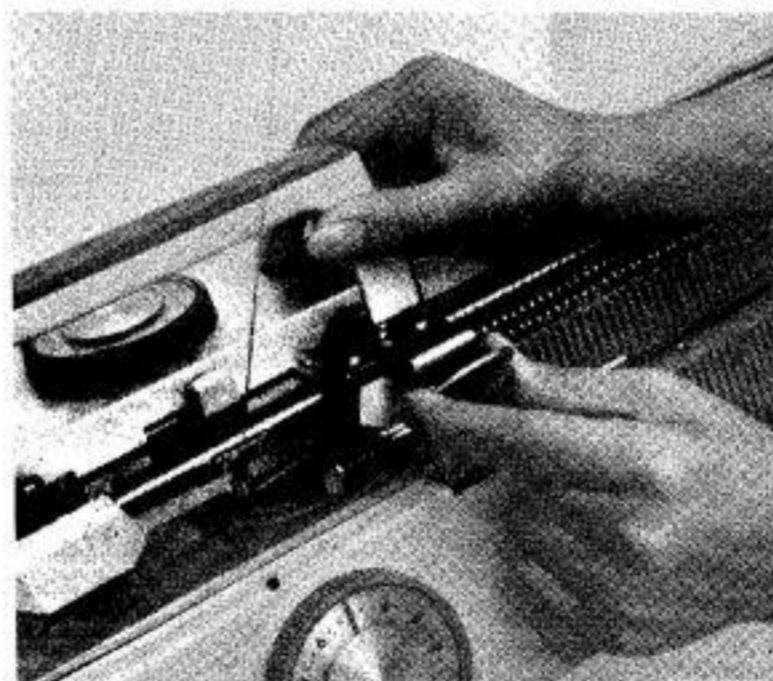
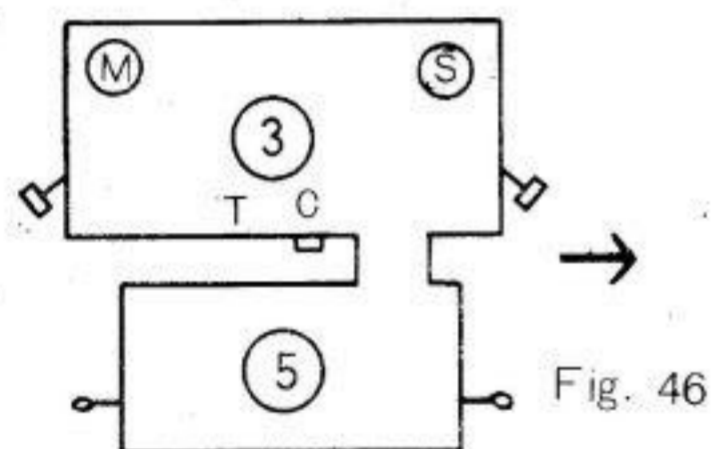

Fig. 45
Fig. 46
9. Now with the both carriages on the left, couple the carriages together as shown in Fig. 45, and set the right hand MAS knob to 'S' on the machine carriage. Move both carriages to right. (Fig. 46)